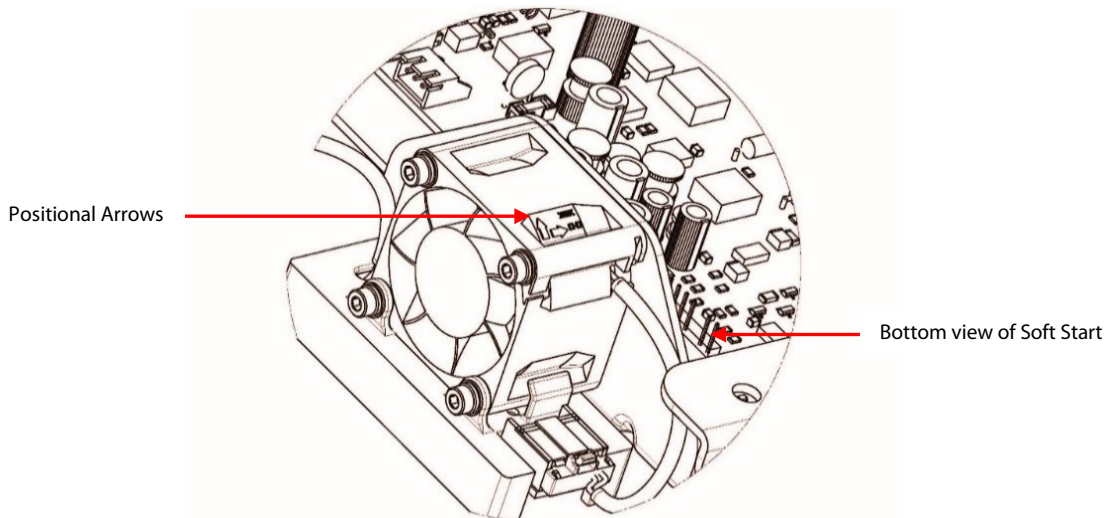

Figure 3. Fan Orientation with Adapter Board
1. Orient the fan so the arrows are pointing counter clockwise and toward the Soft Start. Figure 3 (Fan Orientation with Adapter Board) shows an upside-down view of the Soft Start and where the fan arrows should be pointing.